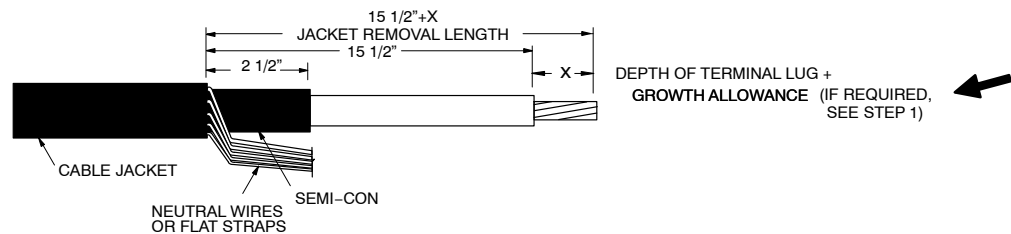

FIGURE 1
1. Train cable into position and cut to required length. Strip the cable to the dimensions shown in Figure 1. Check the lug being used to determine insert depth "X". Provide an additional 1/4" of exposed conductor on 1/0 – 350 kcmil aluminum cables and an additional 3/4" of exposed conductor on 750 kcmil cables. This will accommodate growth during crimping of aluminum lugs. If a shearhead bolt lug is used, additional exposed conductor is not required.